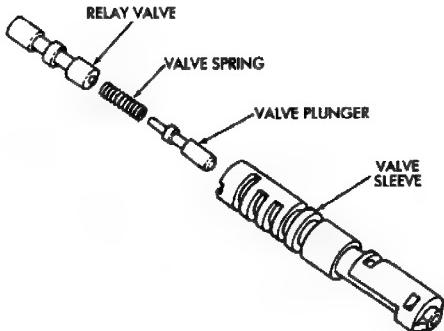

Fig. 9 Lockup Relay Valve Components
(7) Assemble lock-up relay valve. Install spring and plunger in valve sleeve (Fig. 9). Then install assembled valve in sleeve.